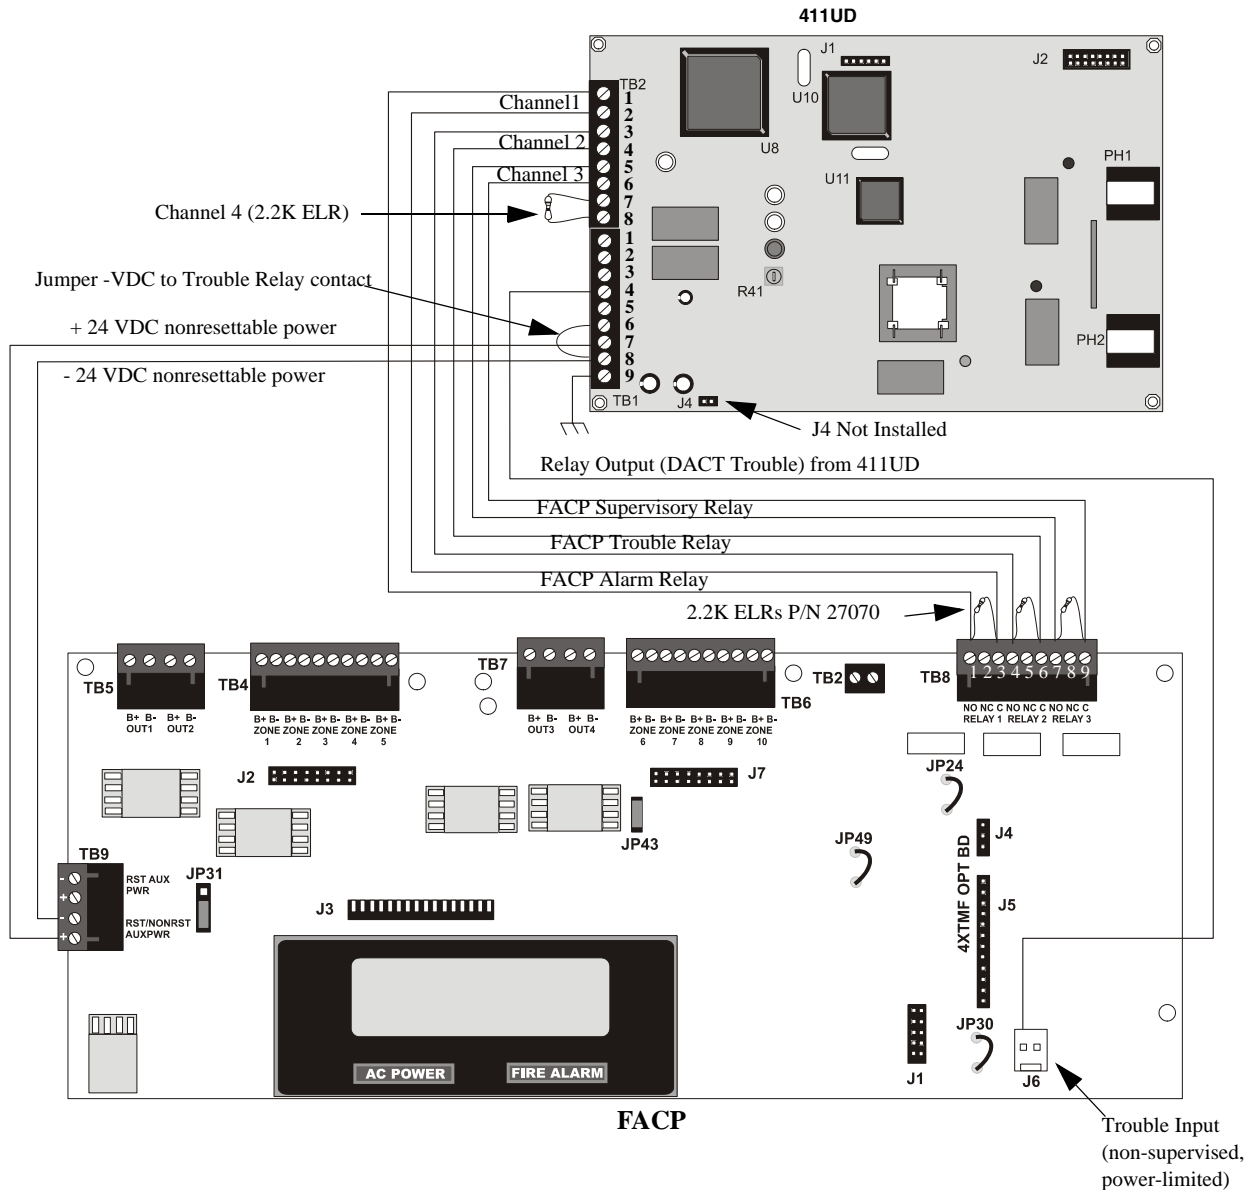

Figure B.1 MS-5UD/MS-10UD FACP Connection to 411UD
411UD may be installed as illustrated in Figure B.1, "MS-5UD/MS-10UD FACP Connection to 411UD," on page 144.
5. Any zone of the 411UD can be wired to function as alarm, trouble or supervisory. In Figure B.1 on page 144, Channel 1/Zone 1 is wired to the control panel's alarm relay, Channel 2/Zone 2 is wired to the control panel's trouble relay and Channel 3/Zone 3 is wired to the control panel's supervisory relay.